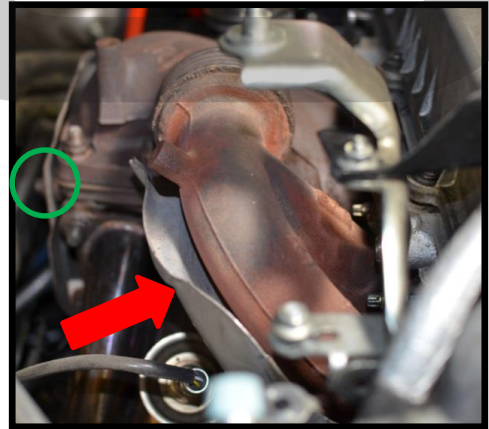
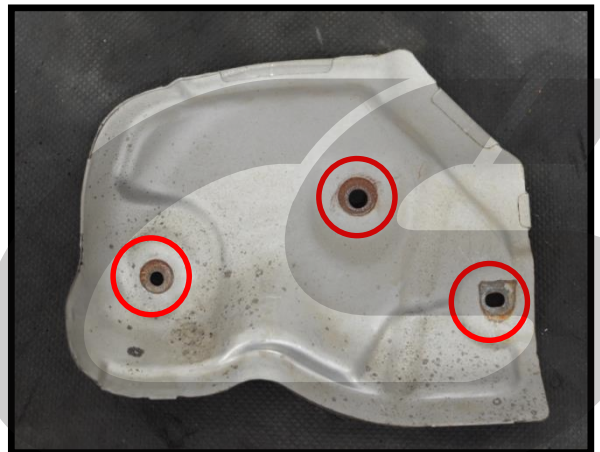

Figure 5b
Figure 5c
- c) Remove the three 8mm bolts holding the lower heat shield shown with the **red arrow** in **Figure 5b** and the **red circles** in **Figure 5c**. Then remove the heatshield.
- d) Remove the three 8mm bolt **circled in green** in **Figure 5b**. Then remove the heatshield.